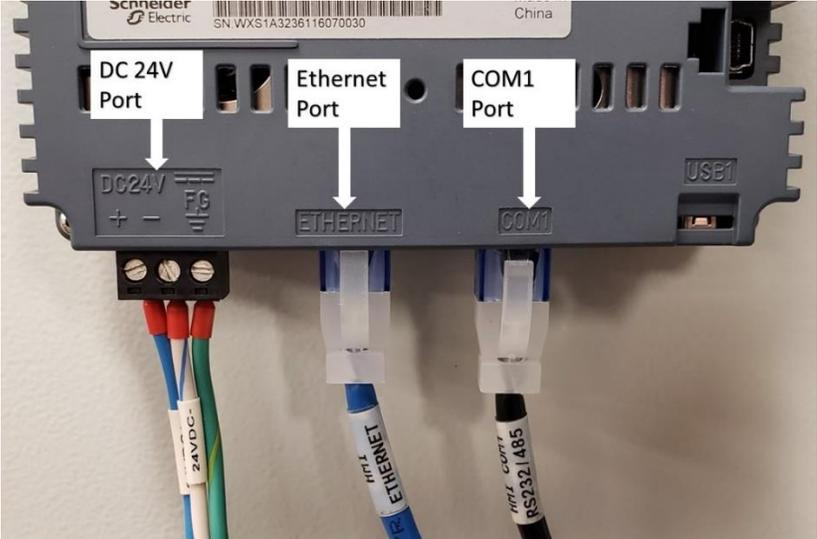

Figure 2: 6" Touchscreen Wiring
1. Document and disconnect any cables and wires connected to the 6" touchscreen including DC24V, Ethernet, and COM1 as shown in Figure 2.